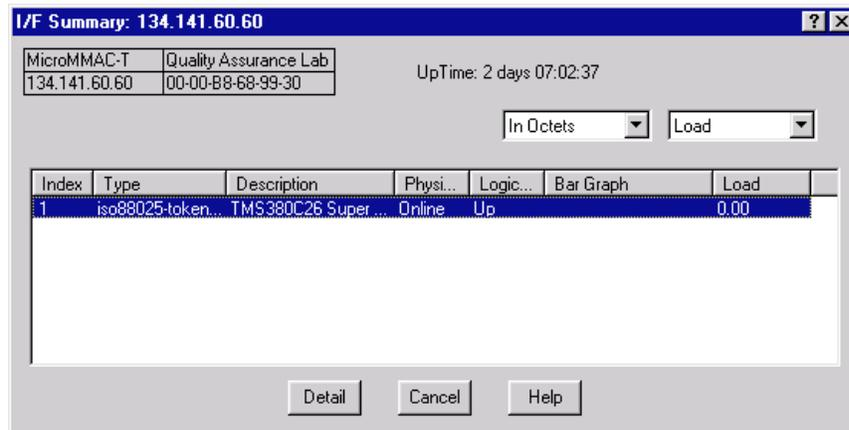

Figure 2-17. I/F Summary Window
2. Click again to select **I/F Summary**, and release. The I/F Summary window, Figure 2-17, will appear.